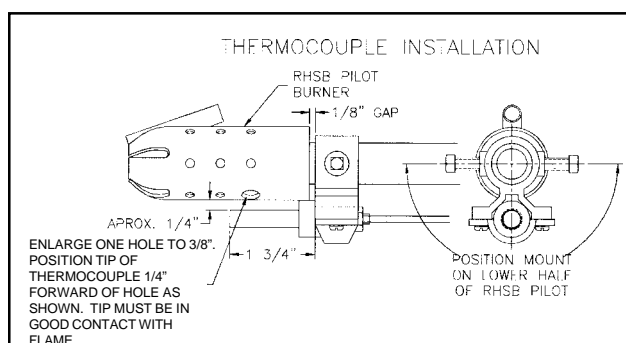

Figure 3
3. The temperature element must be installed on the lower half (between 3 and 9 o'clock) of the pilot burner, as shown in Figure 3.
4. Enlarge one hole in the side of the RHSB to 3/8" as shown in Figure 3.
| Pilot goes out when reset latch is released.                                                   | <ol style="list-style-type: none"><li>1. The temperature-sensing element has not come up to temperature and will not engage the magnetic circuit. Re-light the pilot and leave the reset button latched longer.</li><li>2. The reset button was not fully depressed prior to release. (Partially depressing the reset button will allow gas to flow to the pilot but will not engage the CM7 Pilot Guard magnetic circuit. Prior to releasing, bottom out the reset button.</li><li>3. The reset button was not released smoothly, causing the inner valve to close. Always release the reset button slowly after bottoming it out.</li><li>4. The temperature-sensing element is improperly installed. Refer to Figure 3 and adjust as necessary.</li><li>5. The temperature-sensing element has been disconnected. Check plug.</li><li>6. The sensitivity pot is not turned full clockwise.</li></ol> |
| CM7 Pilot Guard fails to shut off gas to pilot or burner, or does not react within 45 seconds. | <ol style="list-style-type: none"><li>1. The temperature-sensing element is improperly installed. Refer to Figure 3 and adjust as necessary.</li><li>2. Check for damage to the inner valve seal (O-ring 67321473). Replace if necessary.</li><li>3. Check setting of sensitivity potentiometer.</li></ol>                                                                                                                                                                                                                                                                                                                                                                                                                                                                                                                                                                                              |